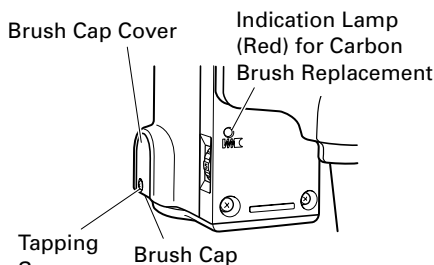

Fig. 20
4. Regarding indication lamp (red) for carbon brush replacement (Fig.20)
(For parts name, refer to Fig. 20)